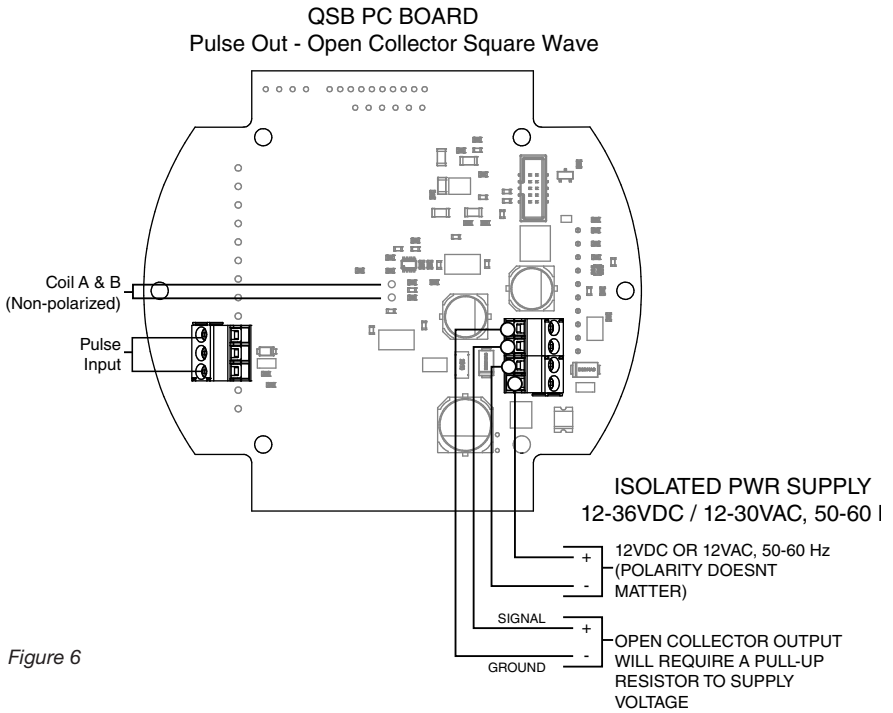

Figure 6
6. Connect cable wires to the QSB or QSI PC board screw connectors (or) to the Coil A and Coil B non-polarized wires (if using an unpowered pick-up coil on your device) (see Figure 6, 8, 10, or 12 depending on your module version).